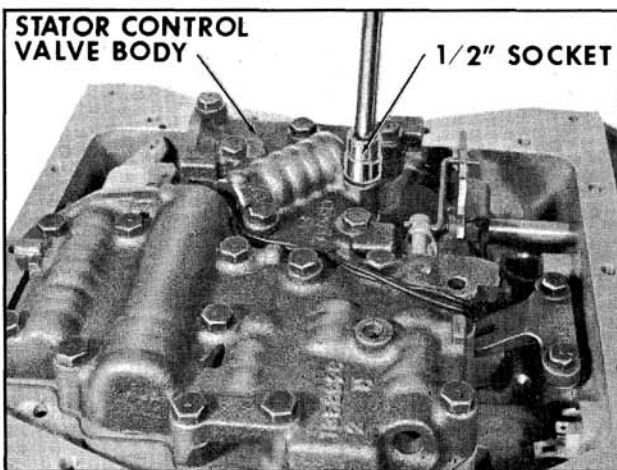

Fig. 6-533 Installing Stator Control Valve Body
6. Install the seven bolts retaining the stator control valve body. Torque bolts to 11 ft. lbs. (Fig. 6-533)